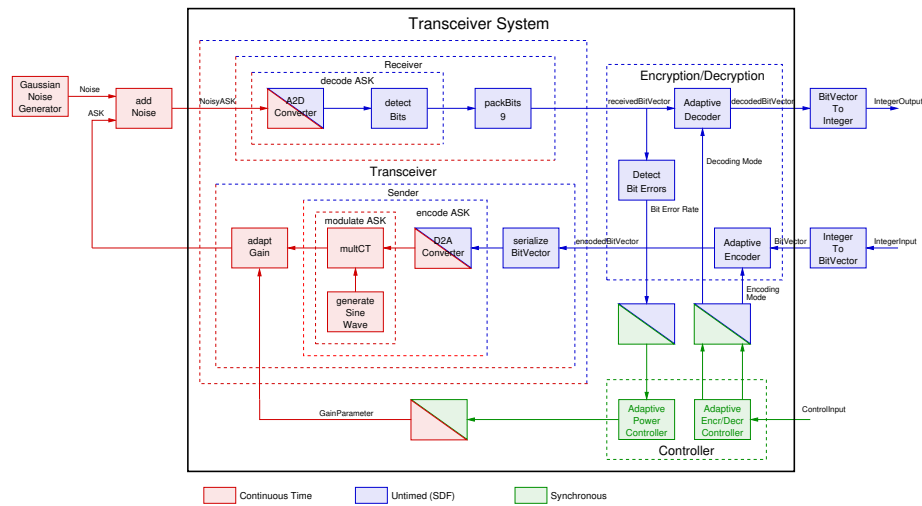

Figure 1.1: The Structure of ASK transceiver case study
The structure of the ForSyDe model is shown in Figure 1.1.
13. You can also look at exported internal signals like the interfaces between the subsystems of Figure 1.1.